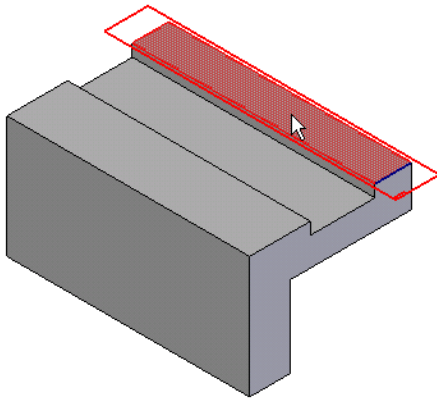

Figure 5-51 Specifying the orientation of the sketching plane for the second feature
1. Move the cursor over the top face of the base feature and then press the N key to orient the sketching plane, as shown in Figure 5-51.